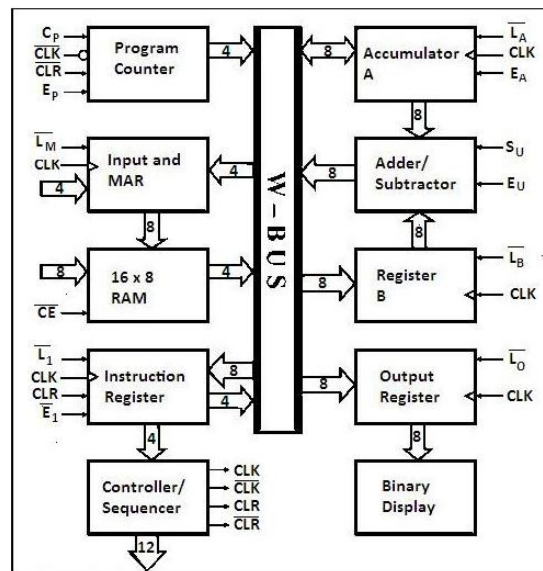

Figure 2.1: Architecture for SAP-1
1. The accumulator (A) is a buffer register that stores intermediate answers during a computer run. In Fig. 2-1 the accumulator has two outputs.
The clock circuit as is shown in the figure 2.1 consists of mainly a 555 Timer and a J-K flip flop. 555 Timer produces a 2-kHz clock signal with a 75% duty cycle at its output, and a J-K flip flop, that divides the signal down to 1-kHz and also produces a 50% duty cycle.